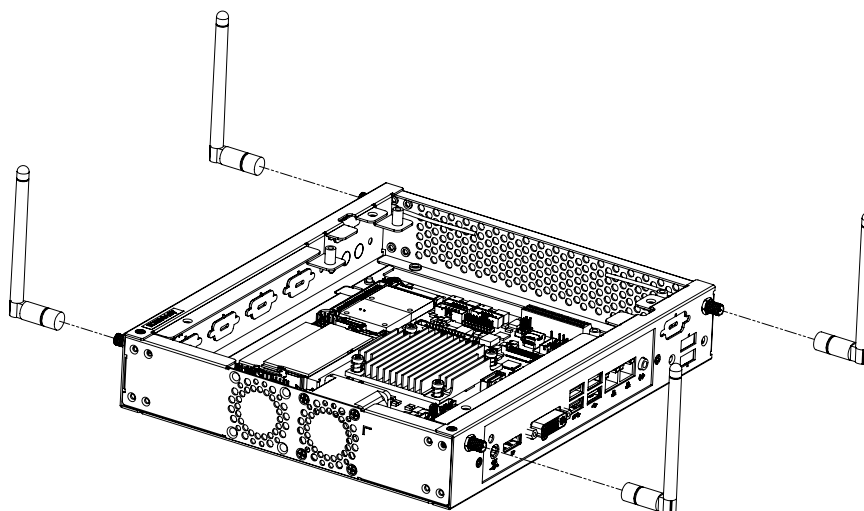

Figure 2.9 Installing an Antenna or Wi-Fi Card /
- Figure 2.9 Installing an Antenna or Wi-Fi Card /